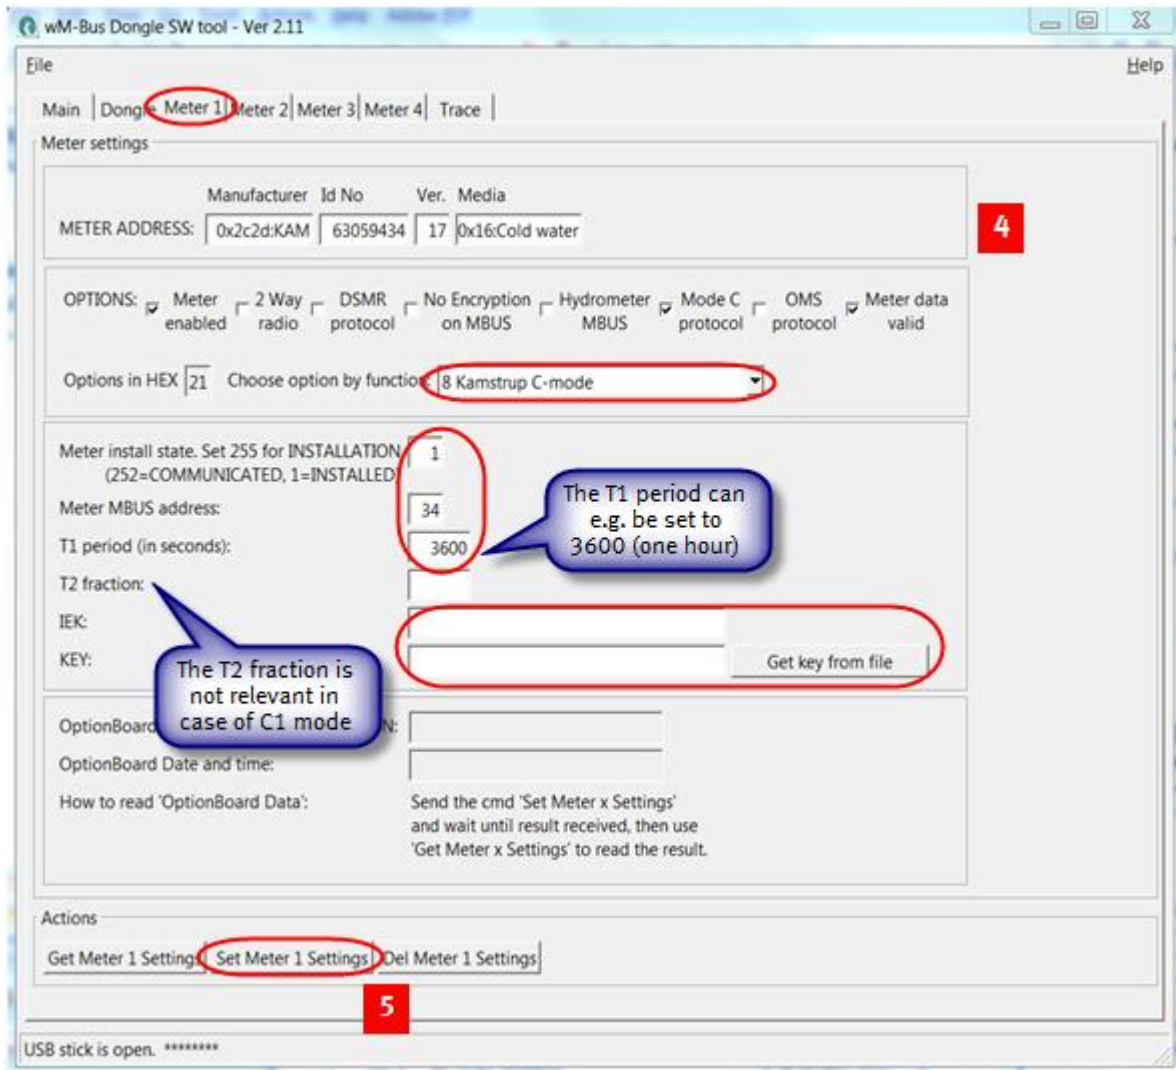

Figure 3
- 4 Configure the wired M-Bus address etc. (see *Figure 3*)
- 5 Store the configuration (see *Figure 3*).